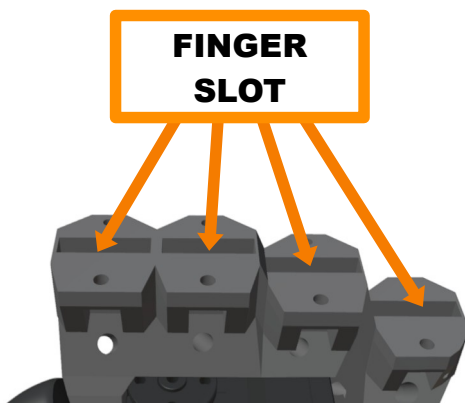

Figure 5.16: Finger slot
3. Secure the nut with the provided insertion tool (figure 5.16)